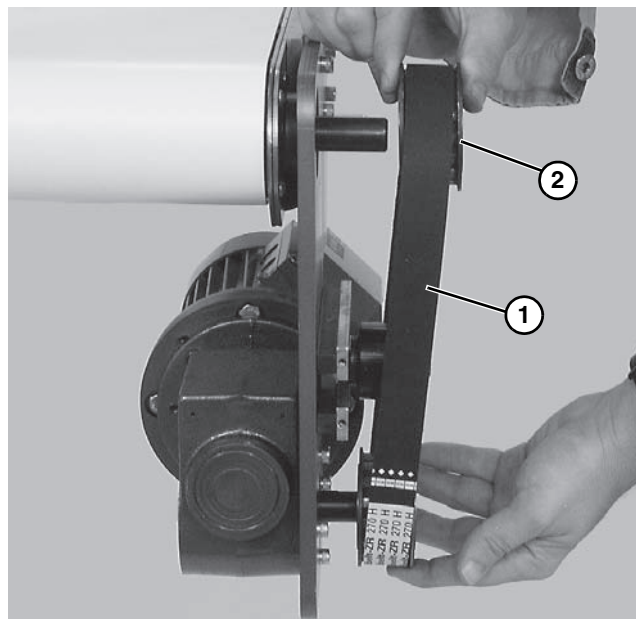

Figure 14
3. Remove timing belt (**Figure 14, item 1**).
If timing belt does not slide over pulley flange, loosen driven pulley taper-lock screws (Figure 14, item 2) and remove pulley with belt (Figure 14, item 1). For re-installation, see steps 6 thru 8 on beginning on page 7.